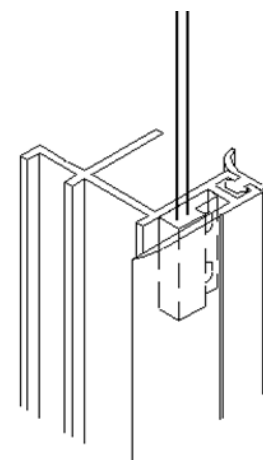

Fig. 9
- a) Place the end of curtain travel proximity switch 2-3/4" from the top of the track to the bottom of the switch and 2-3/4" from the bottom of track to the top of the proximity switch. This distance should be increased to 3-1/4" when a bottom rail extension is used and 4-1/4" for the tall bottom rail. See Fig. 9 for an example of where the proximity switch is located with conventional track. Temporarily install the switch in the track with silicone or some other temporary substance.